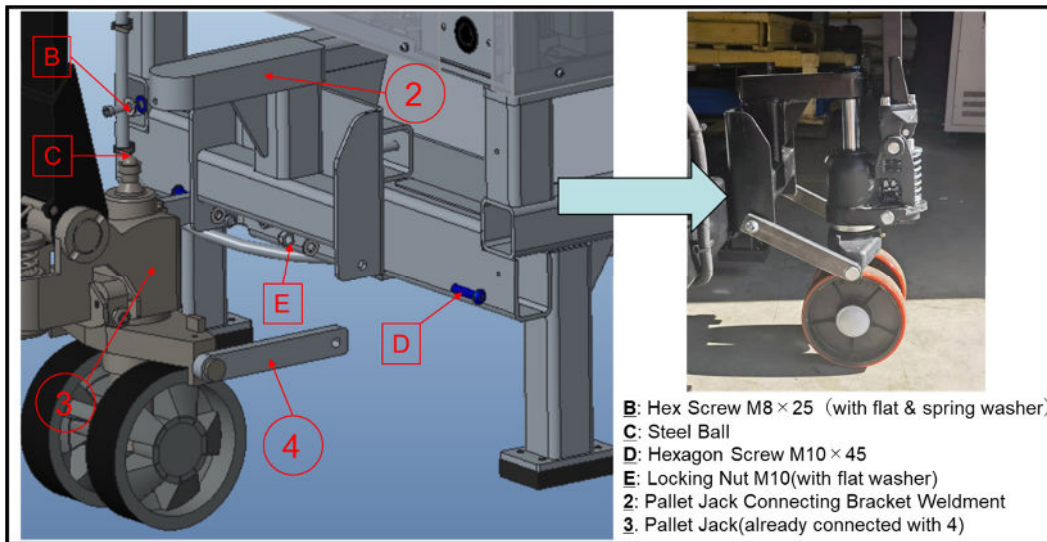

Fig.7.1.5 Pallet Jack Installation
- 3 Tighten screw B at the position shown in Figure 7.1.5.